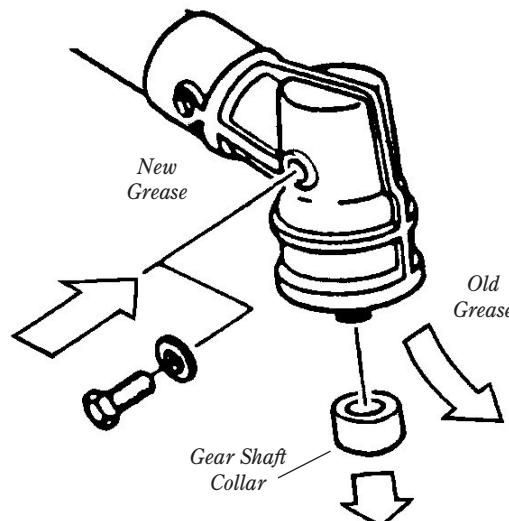

Figure 30
- Remove the cutting attachment, cutting attachment holder and gear shaft collar. Remove the filler plug from the side of the gear case and press new grease into the gear case until old grease is pushed out. Use only lithium-base grease such as Shindaiwa Gear Case Lubricant or equivalent. See Figure 30.